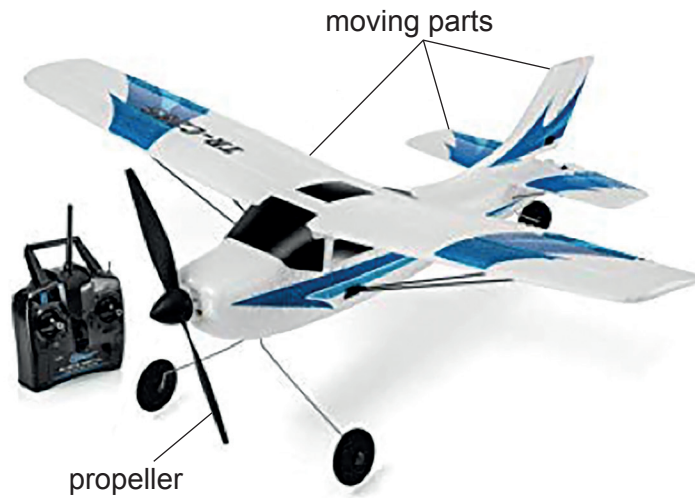

Fig. 4.1
- 4 Fig. 4.1 shows an example of a model aircraft and a remote control which an operator can use to fly and move the aircraft in the air.
(c) The propeller on the model aircraft in **Fig. 4.1** is connected to a DC motor.